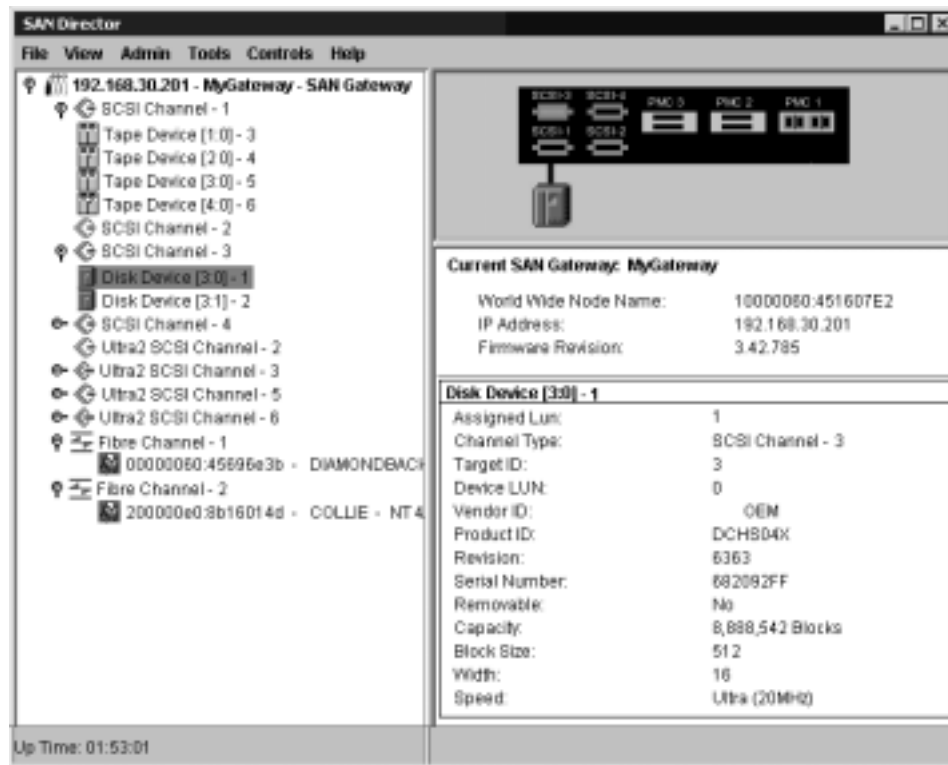

Figure 6-11: Checking the Assigned LUN
- Expand the tree to display SCSI or Fibre Channel storage devices and determine their assigned LUNs. Figure 6-11 shows the Assigned LUN for the